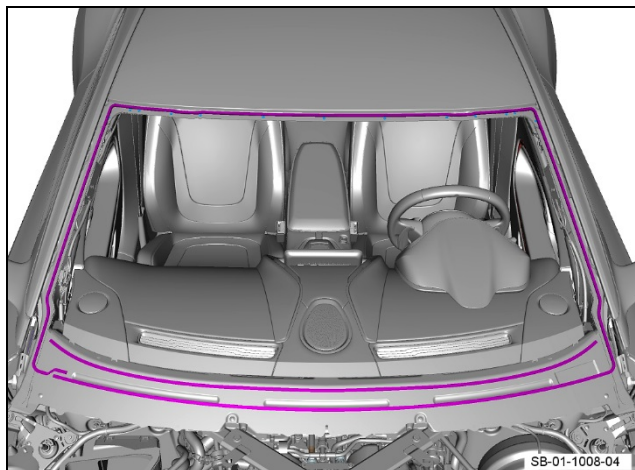

Figure 8
11. Apply sealant to the windscreen to body contact area (Refer to Figure 8).